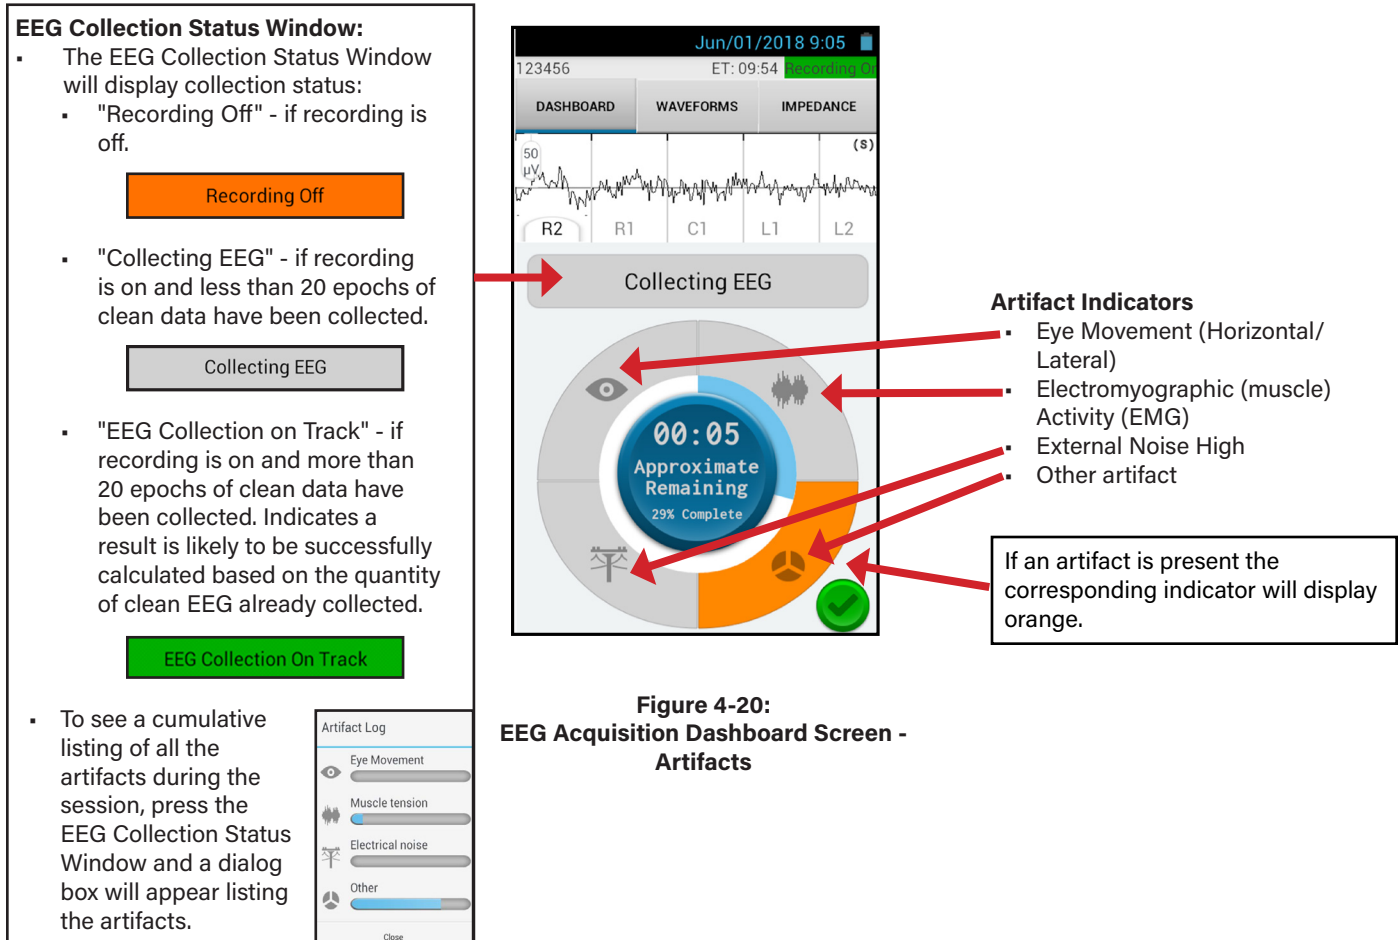

Figure 4-20:
The BrainScope One handheld includes software for automatic identification and rejection of non-brain-generated artifacts (Figure 4-20). This system replicates the process of visual editing usually performed by trained EEG technologists. The operator should pay attention to the circular display to identify artifacts that will hinder collecting clean EEG data. Four (4) types of artifacts will be displayed if detected by the handheld.